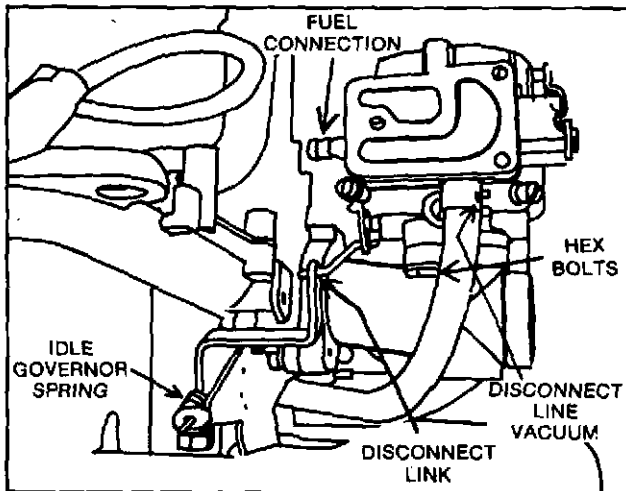

Fig. 7. Removing Carburetor Model 401700
To remove the carburetor, disconnect the fuel line from the pump, use care to prevent breaking the plastic nipple Fig. 7. Disconnect the vacuum hose from the fitting at the carburetor. Remove two (2) hex head screws at the carburetor flange and disconnect the linkage to the governor arm, being careful not to damage the throttle link. Lift the carburetor off the flange.